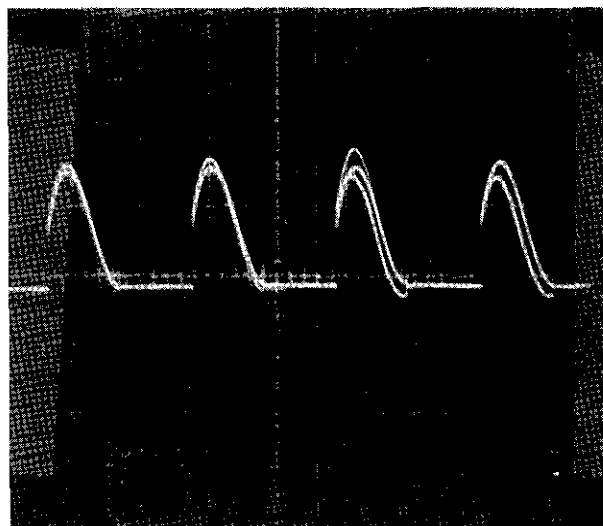

FIGURE 9. Wave Form with R131 Adjusted. A Type 503 Oscilloscope was used; horizontal sweep was 5 msec/cm; vertical, 2 v/cm.
b. To adjust the potentiometer, set the Reference Voltage Dials to zero and the DETECTOR INPUT Switch to ZERO CK. Attach an oscilloscope to the junction of C116 and R134 (from pin 6 of V1002, Figure 15). Adjust potentiometer, R131, for the correct wave form (Figure 9).